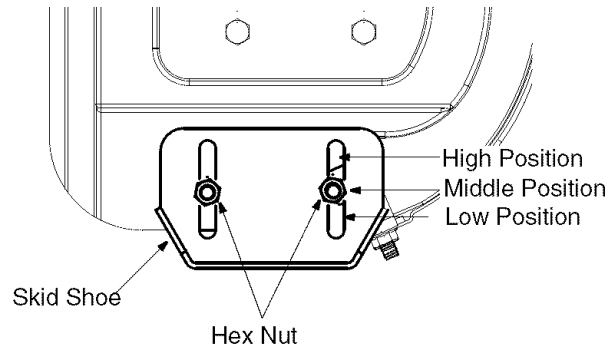
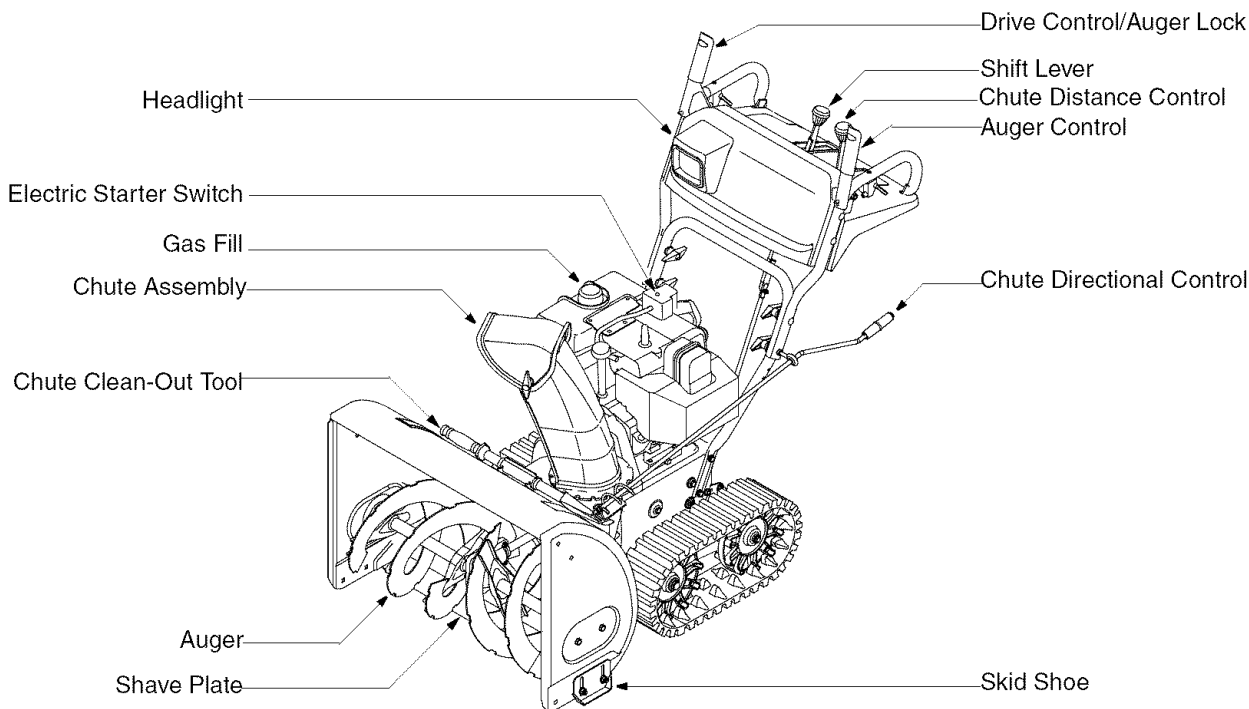

Figure 9
Figure 10
Locate shave plate and skid shoes in Figure 10. The space between this shave plate and ground can be adjusted. For close snow removal, place skid shoes in the low position. Use middle or high position when area to be cleared is uneven. See Figure 9.
1. Adjust skid shoes by loosening the four hex nuts and carriage bolts and moving skid shoes to desired position. See Figure 9.
(See Figure 10.)